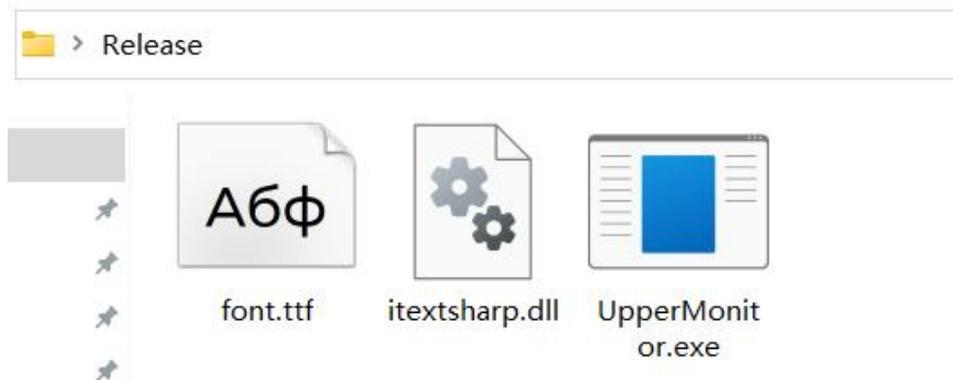

Figure 73
1) Please install the software provided by our company to your PC and get the folder named "Release", as shown in Figure 73 below.